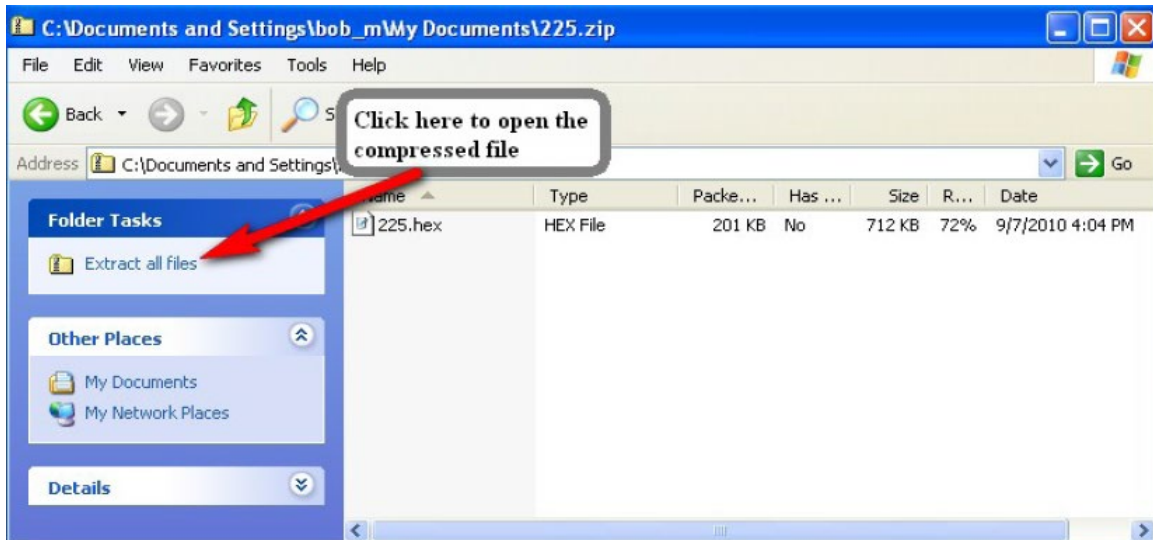

Figure 4
**IMPORTANT!** Confirm that the indicator firmware is in a hex file format where the file name ends with .hex such as 225D.hex or if custom firmware such as B12345.hex or SO123456.hex. Should the file be compressed, the file name will end with .zip such as 225D.zip. Zip files must be decompressed before they can be loaded into the indicator. To decompress the file, save the .zip file to a location on your computer that will be easy to locate like My Documents, then open the file. The window will have the option to Extract all files. See Figure 4. Click on this and use the folder extraction wizard to decompress and save the file(s). Ensure that you select a location to save the file to such as My Documents so you can locate the file when using the AVR programmer. See Figure 5.